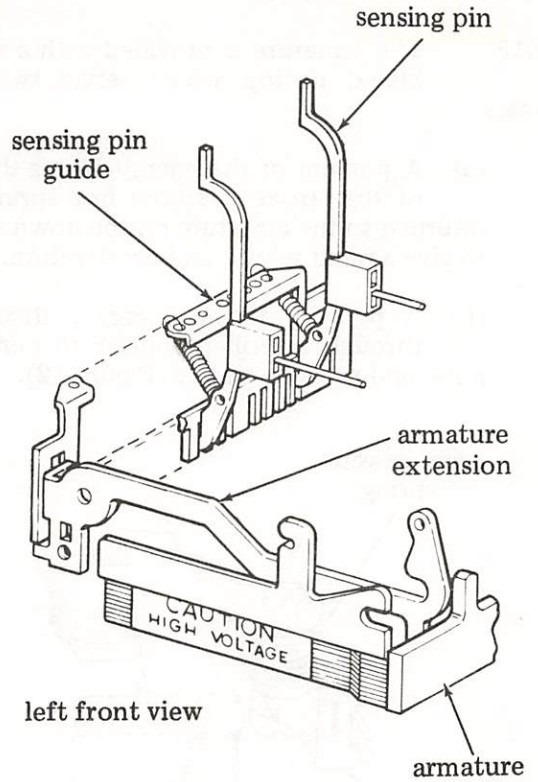
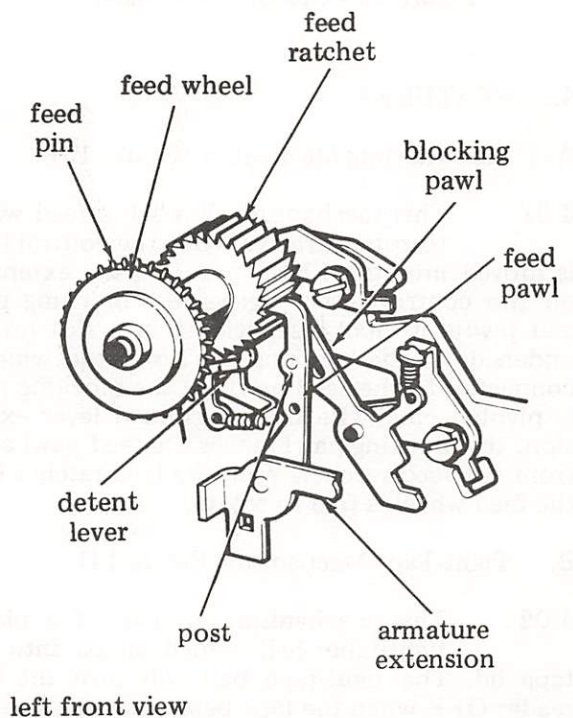

Figure 10 - Sensing Pin Guide
Figure 11 - Tape Feed Mechanism
- (d) With the feed magnet de-energized, the armature extensions drop. The sensing pin guide and the sensing pins will start to drop (Figure 10) and clear the tape just before the feed pawl advances the feed ratchet (Figure 11).
3.13 Associated with the feed ratchet are a detent lever and a blocking pawl. The detent lever, with its circular surface engaging the feed ratchet teeth, holds the feed ratchet and feed wheel in its correct position during sensing (Figure 11).
3.14 The blocking pawl, which rides a post on the feed pawl, is lowered into engagement with a feed ratchet tooth during the feed stroke. This is to prevent excessive overthrow of the feed wheel, without the use of a heavy detent spring. During the upstroke of the armature extensions, the blocking pawl is rotated out of engagement with the tooth by the post on the feed pawl (Figure 11).